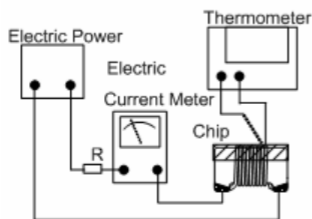

Fig. 6.3.4-1
- h. Definition of Rated Current (Irms): Irms is direct electric current as chip surface temperature rose just **25°C** against chip initial surface temperature (T_a) (see **Fig. 6.3.4-2**).